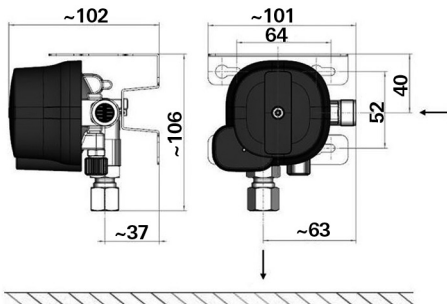

Figure 1: The dimensions are in mm. Not shown to scale.
- To ensure proper operation, the gas pressure regulator must be fitted vertically to a stable wall/roof of the gas cylinder box and must be securely screwed in place with 2 screws arranged diagonally. The outlet connection must always face downwards (Figure 1). Attention must be paid to the installation direction.